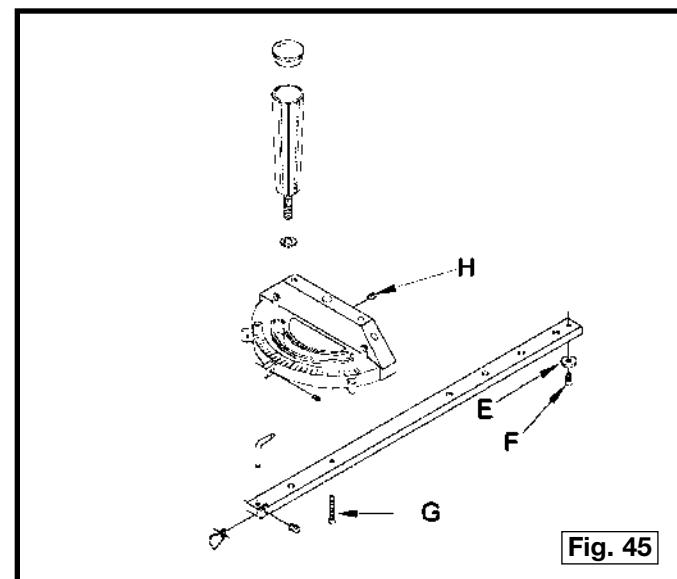

Fig. 45
2. Rotate the saw blade so that the same tooth you used in **STEP 2** is in the rear position (Fig. 45). Both the front and rear measurements should be identical.
The head of the miter gauge pivots on a special tapered screw (G) Fig. 45. If the miter gauge head does not pivot freely, or pivots too freely, adjust it by loosening the set screw (H) Fig. 45, and turning the screw (G) in or out.
Your miter gauge is equipped with a plate (E) Fig. 45 that fits into the T-Slot groove in the table. This allows the miter gauge head to go off the front edge of the table without falling, allowing for a longer cut off capacity.